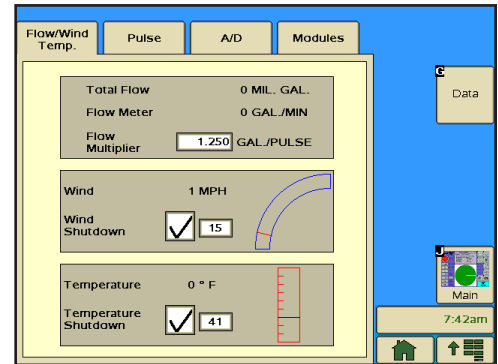

Figure 91-1 1. Flow/Wind Temp. Tab
- FLOW/WIND/TEMP - Review the total flow volume and rate of flow when the flow meter option is installed. Review wind speed when the wind meter option is installed. Review the temperature when the temperature sensor option is installed. Refer to Figure 91-1.